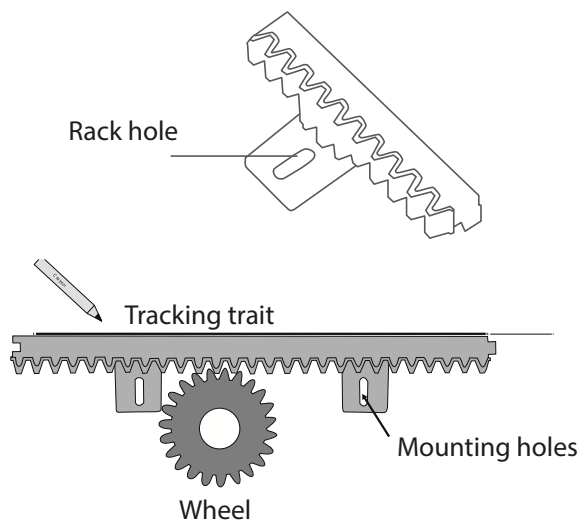

Figure 10
A) Place the first rack on the driving pinion and trace the drilling locations completely. The rack must be perfectly horizontal. Mark a trait on the top of rack. Proceed in this way over the entire length of the gate. (Figure 10)